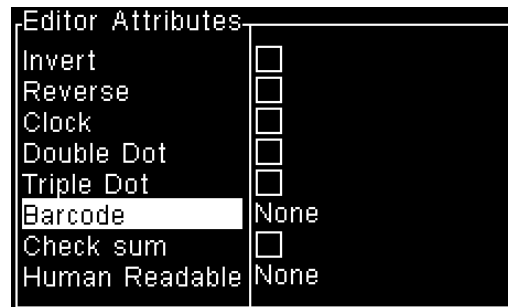

Figure 5-13: Barcode Option
- 8 Select *Inline Attributes* from the Editor menu to open the Editor Attributes window (Figure 5-13).